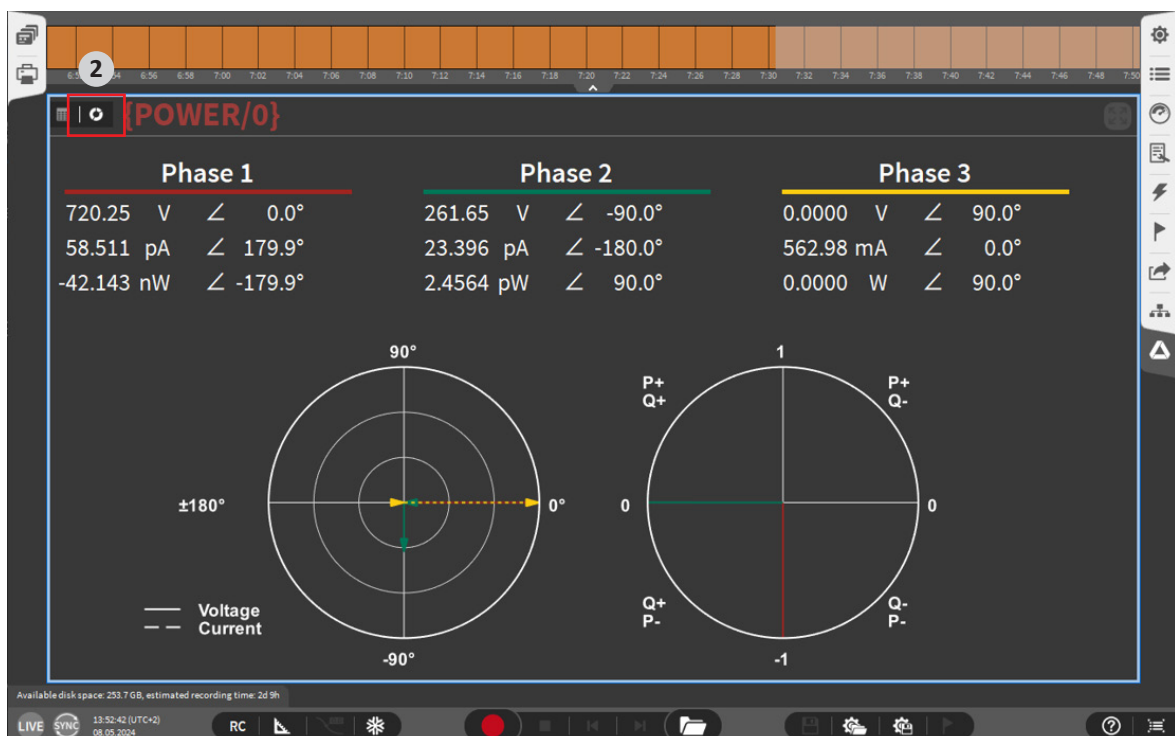

Fig. 24: Place the Power instrument without a template (3)
3. To access the scalar view of the power instrument, click in the circle on the top left of the instrument, see ② in Fig. 24.